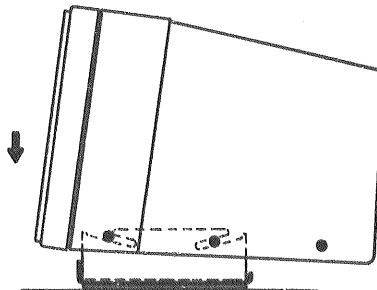

FIGURE 2-9. Display Unit Installation Step 3
- d. Push display unit down as shown in Figure 2-9. Display unit is now properly inserted into the tilt/swivel assembly.